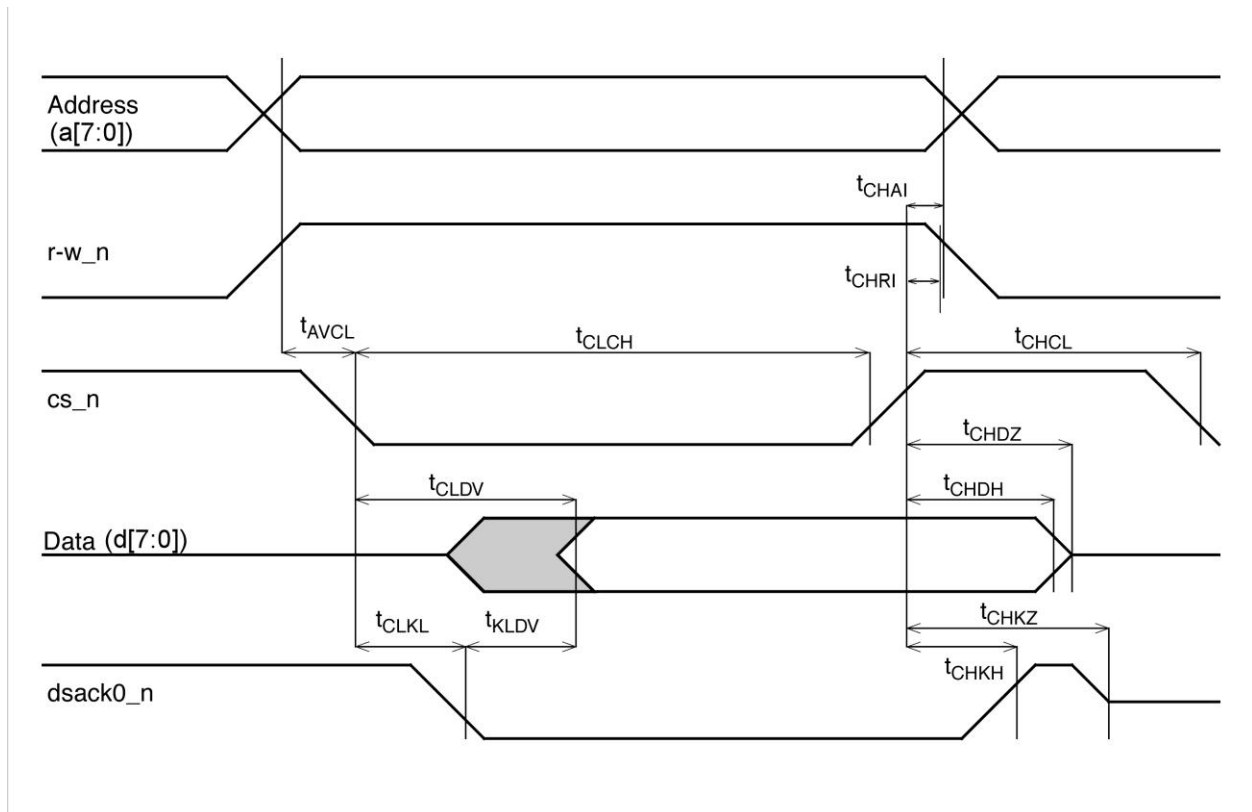

Figure 12. Mode 3: Asynchronous Operation, Read Cycle
- Mode 3: Asynchronous Operation, Read Cycle (Table 12/Figure 12)